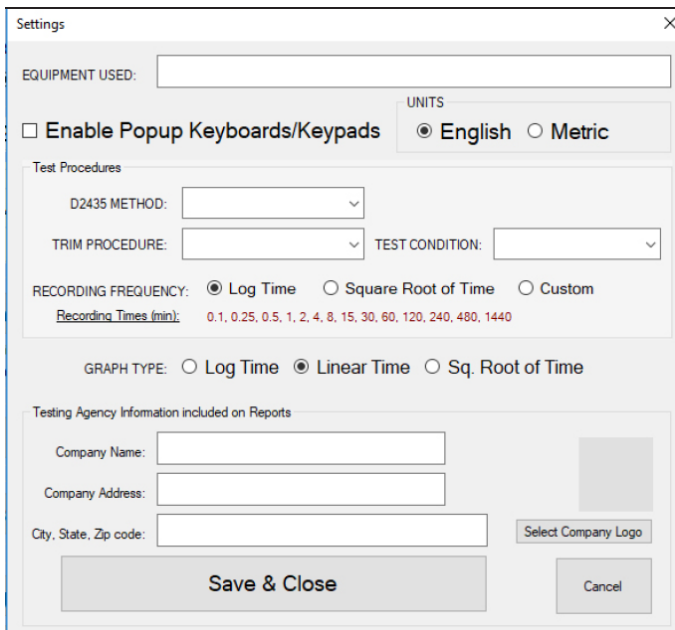

Figure 7: Program Settings
The program settings (Figure 7) can be found under the **Utilities** drop down menu on the top toolbar. Within the program settings the ASTM D2435 method used, the trim procedure, and the test condition can be selected. You can also set units and toggle popup keyboards and keypads for use with touchscreen enabled devices. Company and equipment information can also be entered here. This information will be displayed on the report generated at the completion of a test. These settings remain saved for future testing.
2. Go to Settings and enter the applicable test procedure information and requested recording frequency (Figure 7).